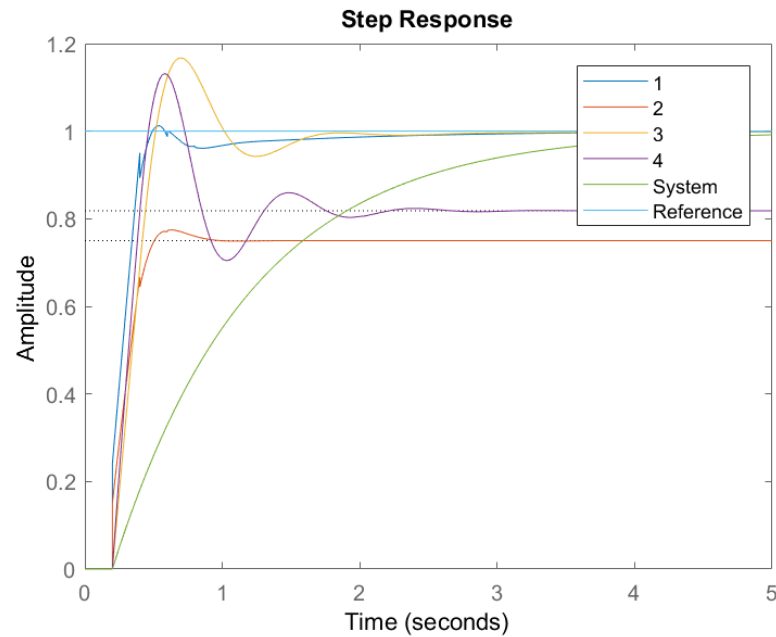

Figure 4: Step responses of PID controllers
- a) The plot below shows the step responses of different variations of PID controllers (P, PI, PD, PID). Which step response in the figure 4 belongs to the PD-controller?